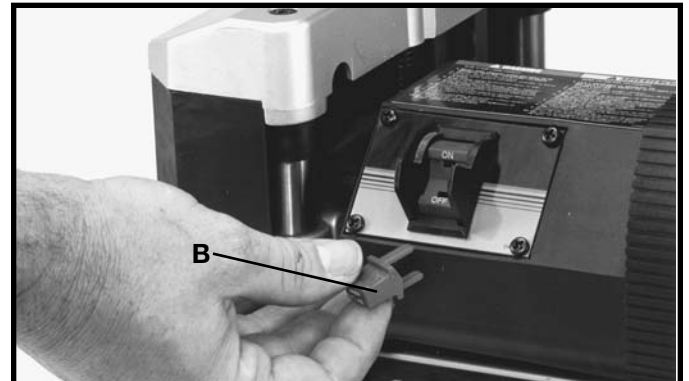

Fig. 15
When the tool is not in use, the switch should be locked in the "OFF" position to prevent unauthorized use. This can be done by grasping the switch toggle (B) Fig. 15, and pulling it out of the switch, as shown. With the switch toggle removed, the switch will not operate. However, should the switch toggle be removed while the machine is running, the switch can be turned "OFF" once, but cannot be restarted without inserting the switch toggle.